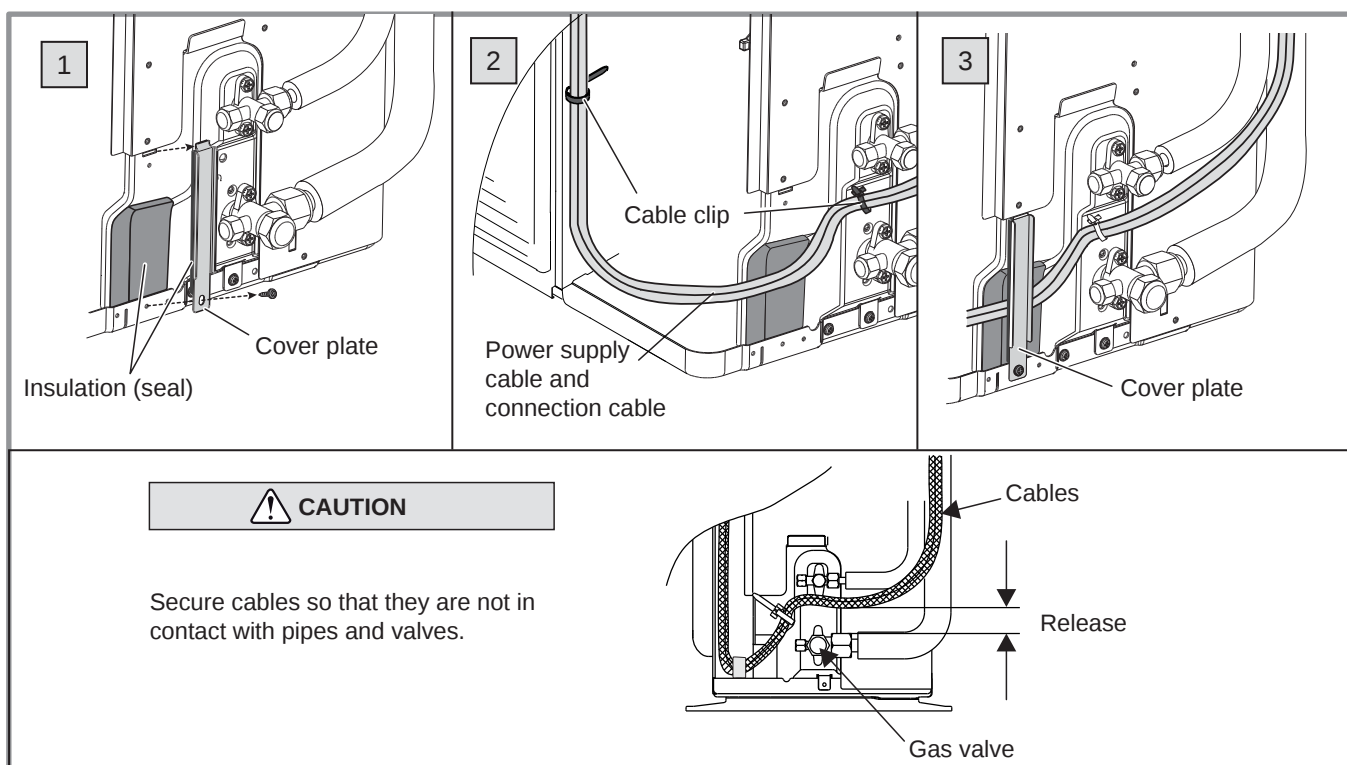

figure 33 - Finalisation of connection to single phase outdoor unit
- Use the mounting plate to hold the cables against the insulating plate. (**figure 33**).